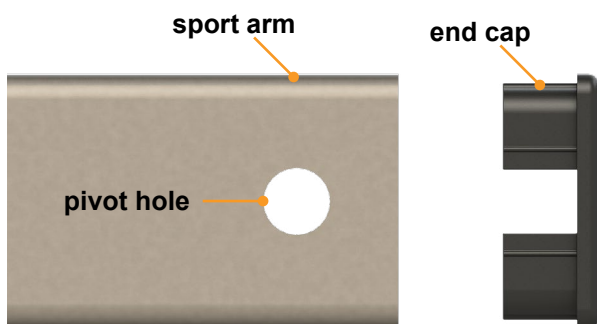

Fig.2
1. Remove the end cap from the front sport arms (Fig.2).